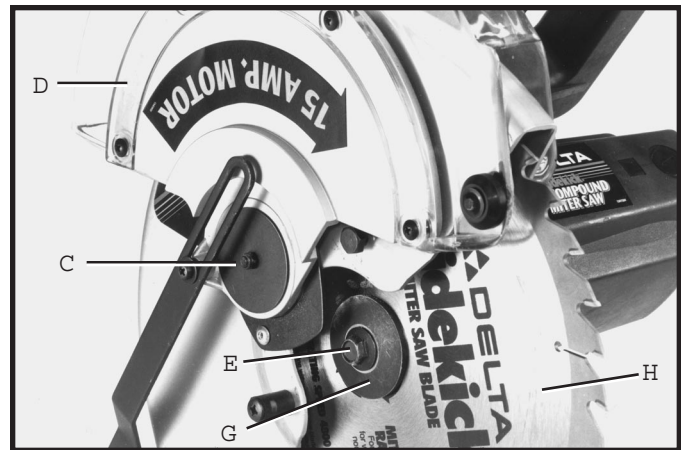

Fig. 54
4. Rotate arbor cover (C) Fig. 54, and lower guard (D) to the rear, exposing arbor screw (E), as shown.
5. Remove arbor screw (E) Fig. 54, by turning screw clockwise with wrench supplied while at the same time pressing in on arbor lock (F) Fig. 56, to keep the arbor from turning. Remove outside blade flange (G) Fig. 54, and saw blade (H). DO NOT REMOVE INSIDE BLADE FLANGE.
7. Assemble the new saw blade MAKING CERTAIN TEETH OF SAW BLADE ARE POINTING DOWN AT THE FRONT, AS SHOWN and assemble outside blade flange (G) Fig. 54, making sure flats on outside blade flange are engaged with flats on arbor shaft.
8. Thread arbor screw (E) Fig. 54, into saw arbor by turning screw (E) counterclockwise as far as possible by hand. Then tighten arbor screw (E) with wrench supplied while at the same time pressing in on arbor lock (F) Fig. 55, to keep arbor from turning.
9. Rotate arbor cover (C) Fig. 54, and lower guard (D) to the front and tighten screw (A) that was loosened in STEP 3.